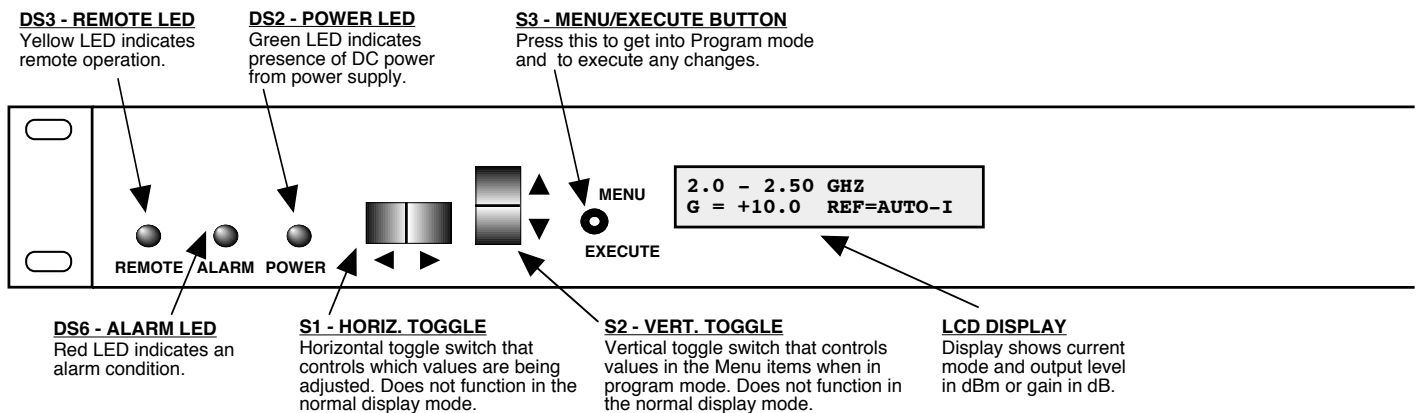

FIGURE 2.2 3116-2025 Front Panel Controls and Indicators
Figure 2.2 shows the front panel controls and indicators.
6. Be sure DS2 (green, DC Power) is on and DS6 (red, Alarm) is off (Figure 2.2).
Alarm indications appear on the LEDs (see Figure 2.2).